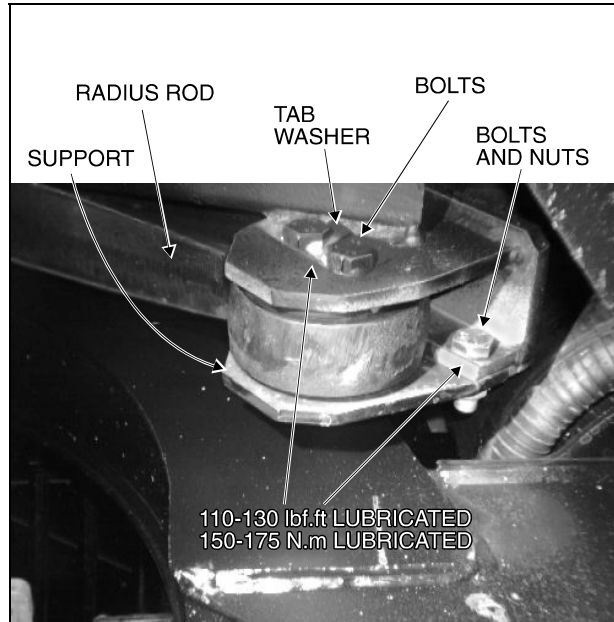

FIGURE 5
6. On the other end of radius rod, flatten tab washer which secures the two bolts, then unscrew them. (Fig. 5).
7. Unscrew the two bolts and nuts retaining radius rod support (Fig. 5), and remove radius rod.